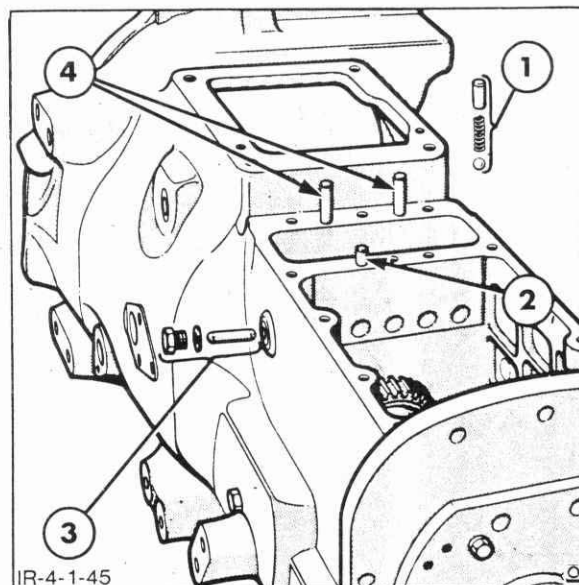

Figure 4-64
6. Insert the safety start switch plungers into their respective bores, Figure 4-64. Insert the gearshift rail balls, springs and detents into their respective bores, Figure 4-64.